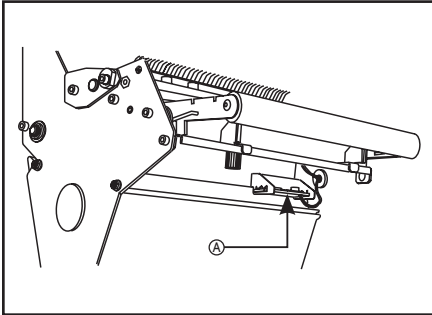

Figure 13
1. Locate the Lower Media Sensor Assembly (Figure 13-A) under the rear idler roller. (It is a spring clip holding a circuit board.)